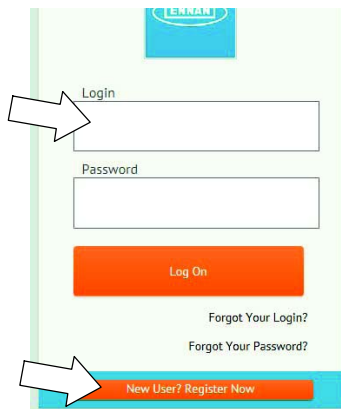

FIG. 5
2. Log on to the “My Tennant” website or register as a new user. (Fig. 5)